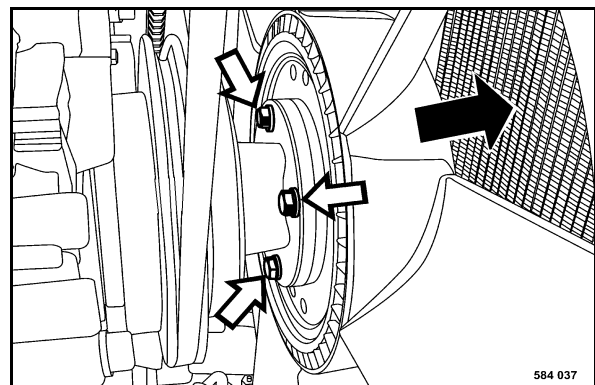

Fig. 138
- Unscrew the fastening screws (Fig. 138) and slide the fan forward.